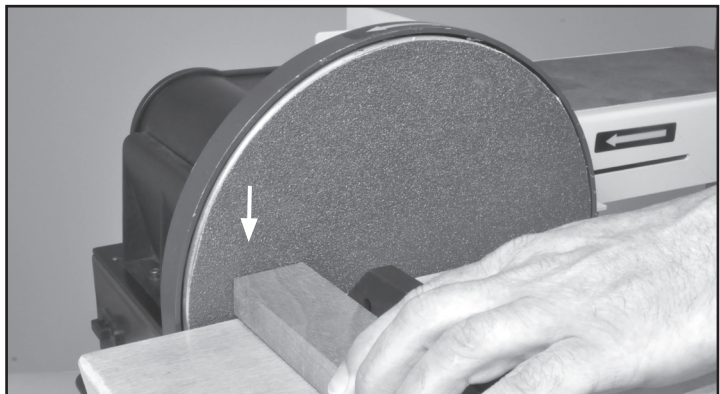

FIG. 30
WARNING: When sanding, always position your work on the downward, rotating side (left side) of the sanding disc. FIG. 30. The sanding action will then force the wood down, safely towards the table, where it can be controlled. Sanding on the right, upward rotating side of the disc is dangerous, as your work cannot be controlled and 'kick-back' may occur - the wood being forced up and out of your hands.
1. Depending on your work, set the Sanding Disc Table to the proper angle from 45° to 90°. FIG. 30, 31.
Always sand *outside* curves on your work piece with the sanding belt in vertical position, using the belt's fence for support. FIG. 34. Or sand your work on the left side of center on the sanding disc. FIG. 30 & 31.